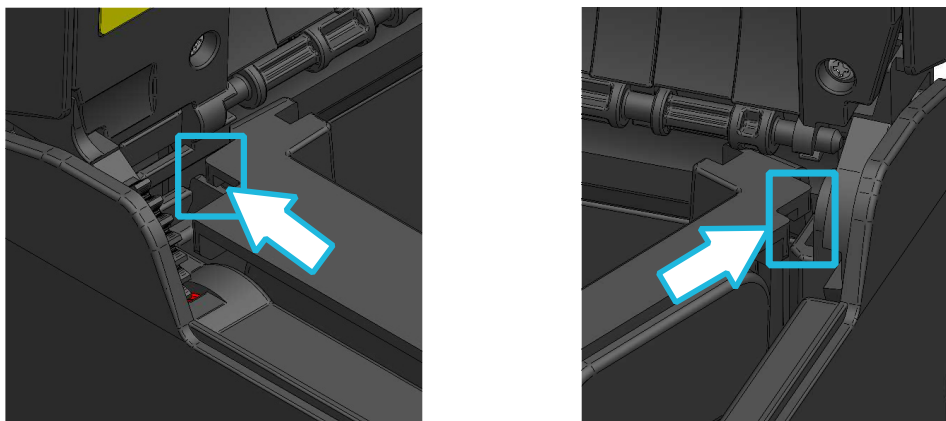

Figure 14-3 Partition Plate Installation (3)
- (5) Put the hook which is located on the upper side of the partition plate L and partition plate R on the hole of paper holder as shown in Figure 14-3.